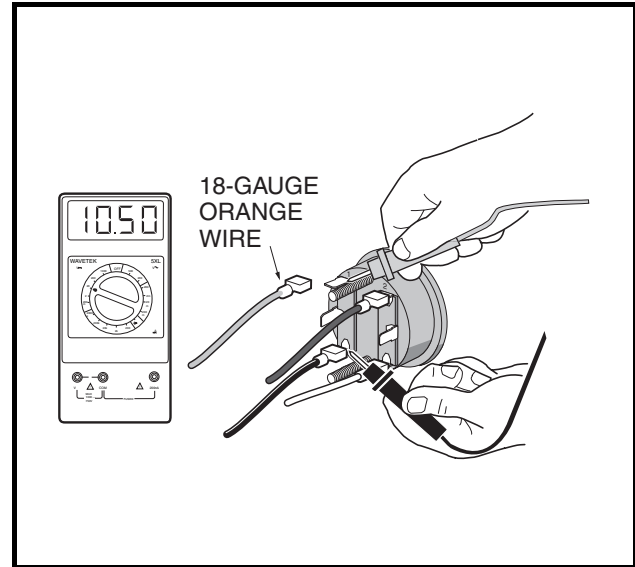

Figure 11-36 Test Fuel Gauge Voltage
9. The orange wire should remain disconnected for this step. With the black probe still on the (3) terminal of the fuel gauge/hour meter, place the red (+) probe of the multimeter on the (1) terminal of the fuel gauge/hour meter (**Figure 11-36, Page 11-34**). The voltage reading should be the same as the full battery voltage reading obtained in step 5. If the reading is incorrect, replace fuel gauge/hour meter.